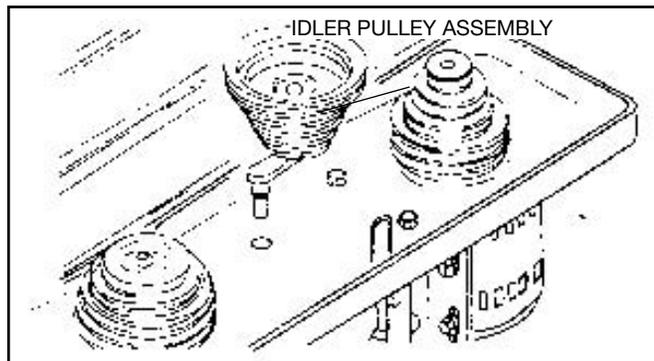

FIGURE 12
1. Locate center pulley assembly in loose parts bag and place in proper hole. See figure 12.